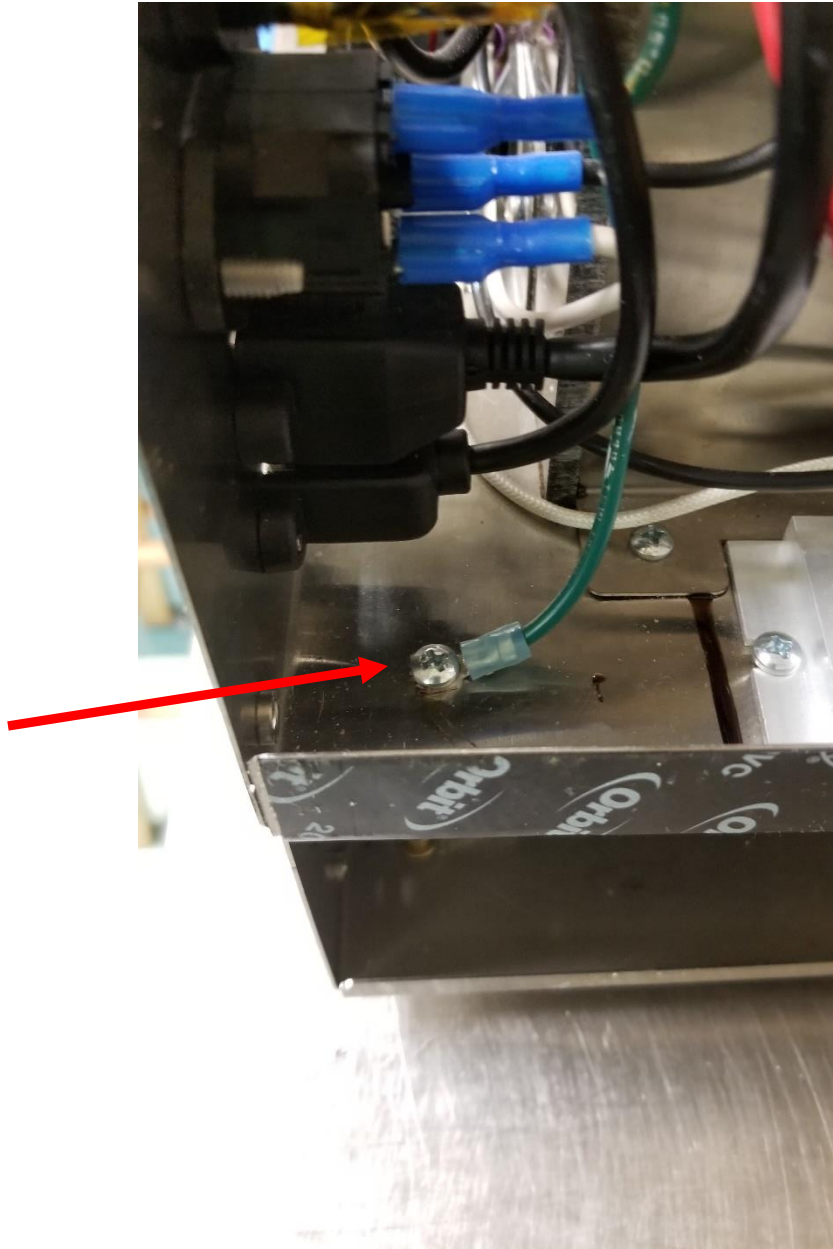

Figure 11
1. Two screws at the rear of the Zymatic have grounding wires connected to them and the two screws at the front of the unit do not. See Figures 11 and 12.